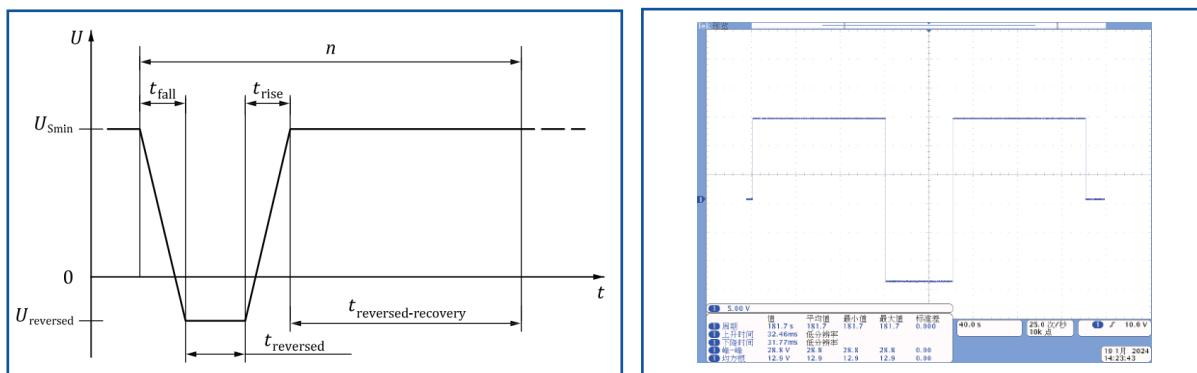

Figure 16 — Reversed voltage test case 1
- This test case applies if the DUT is used in a vehicle with a 12 V nominal voltage system where the alternator circuit is not fused and the rectifier diodes withstand a reversed voltage for 60 s. Apply a test voltage of -4 V simultaneously to all relevant inputs (connections) of the DUT for a duration of  $(60 \pm 6)$  s (see Figure 16 and Table 15).